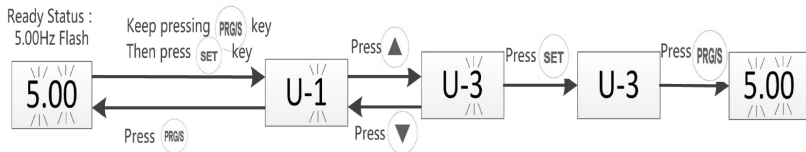

Figure 7-10 Use key combinations to select menu mode
- Use key combinations to alter menu mode as shown in Figure 7-10: